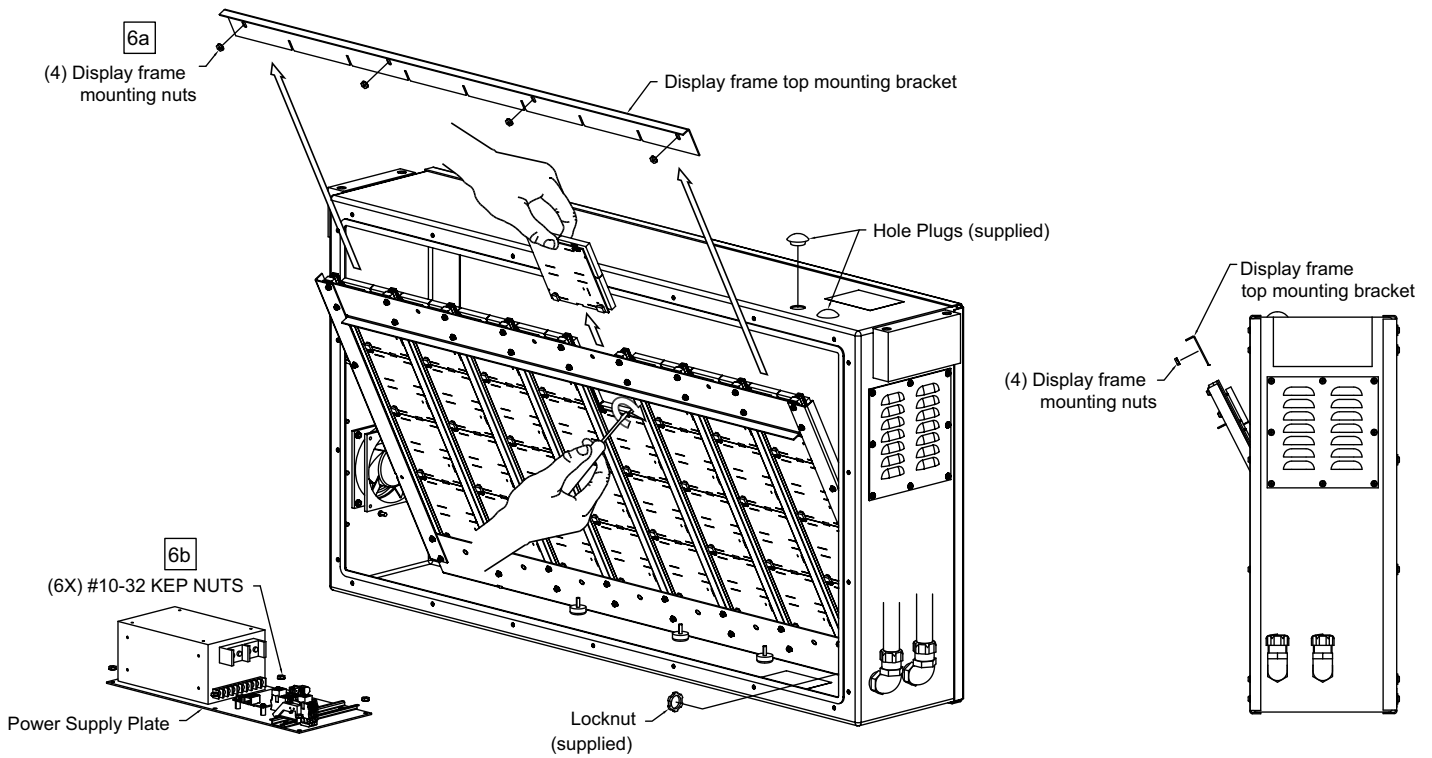

FIGURE 6
The display boards are held in place by a display frame assembly, which is built from nine aluminum display rail extrusions. The extrusions have a slot on each side to receive the PC board edge of the display boards. The boards simply slide into place. A male right angle connector on the top side of the board mates with a female connector of the board above it, thus, passing the power and signal from the top board to the bottom board. In normal operation, the display frame is fastened to the enclosure using 4 nuts (Figure 6a). However, these nuts can be removed to service the display, if required. The display frame has a pivot point along the bottom edge, which allows the top edge of the frame to tilt outside the enclosure, providing access to the top display boards. Display boards are easily removed by disconnecting the appropriate wiring connection from the top board (Figure 5b), separating the boards and sliding them out the top of the frame assembly (Figure 6).
6. Lift off the display frame top stop bracket (See Figure 6).
8. Remove the appropriate board (See Figure 6). Note the DIP switch setting (Figure 5a) on the old board.